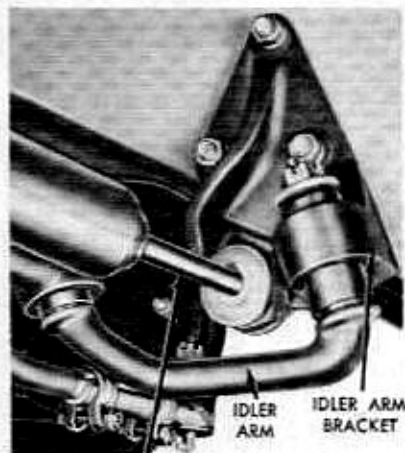

FIG. 18—Power Cylinder Piston Rod, Idler Arm and Bracket
2. Remove the locknut, nut, washer, and insulator (Fig. 18) from the outer end of the piston rod. Do